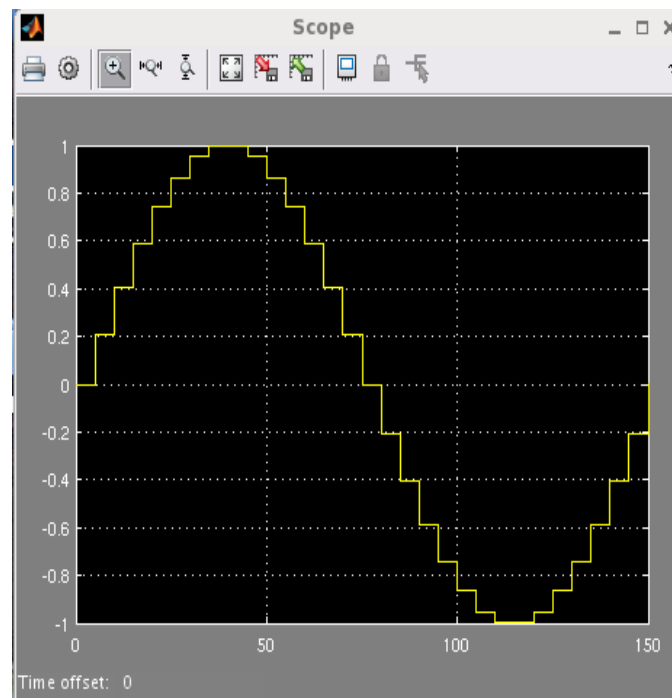

Figure 12: Simulation results using a Sample Time of 5.
13. We can specify a different value for the sample time of the Sine block (the default is 0 which causes the block to operate in continuous mode) by opening the Sine block and entering a non-zero value for the **Sample time**. Recall that we specified a sine wave with a period of 150s, if we enter 5 for the sample time, the block will now operate in discrete mode, producing a new sample every 5 seconds. It is readily apparent as we increase the sample time (fewer sample per period), the greater the quantization error will be. Enter 5 as the **Sample time** and select OK and re-run the simulation to see the effects of sampling (refer to Figure 12).